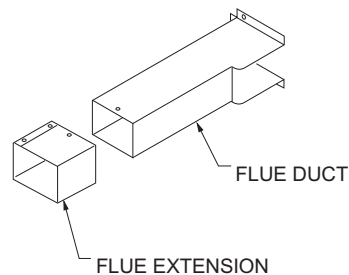

FIGURE 10 : FLUE EXTENSION
- Place the flue extension (Figure 10) on the flue duct of each furnace section and attach with screws provided.